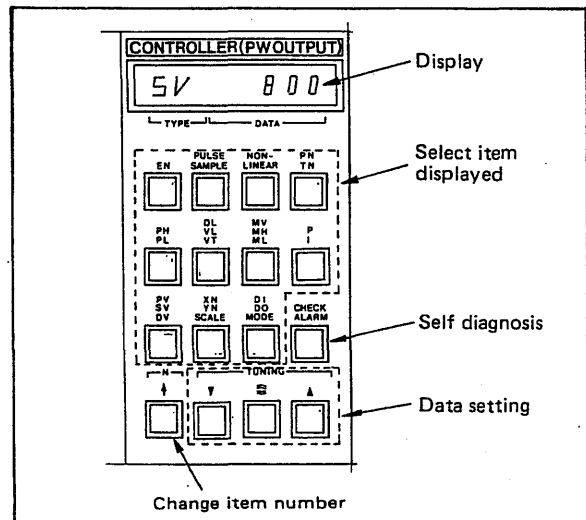

Figure 5-1-8. Functions of Keyboard.
■ Keyboard operation (See Figure 5-1-8.)